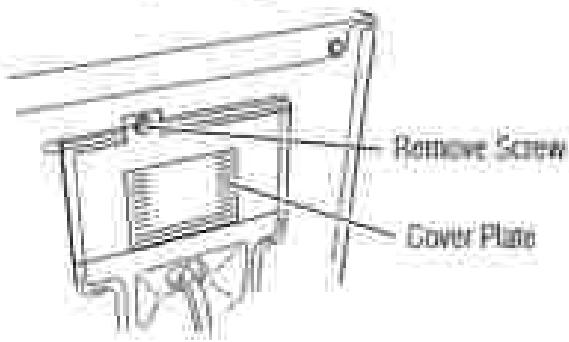

Figure 1 - Remove the cover plate (appearance may vary).
2. Remove the cover plate from the top right corner of the back of the dryer. See Figure 1.